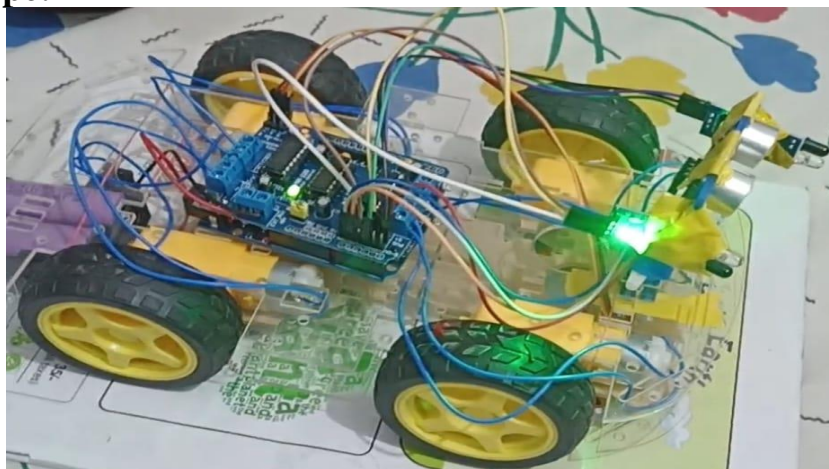

**Figure 2 : Block Diagram of Model**
- As mentioned in Figure 2. Smart home devices, including lights, thermostats, cameras, locks, and appliances, are equipped with sensors and connected to the home's WiFi network, allowing them to communicate with each other and be controlled remotely.